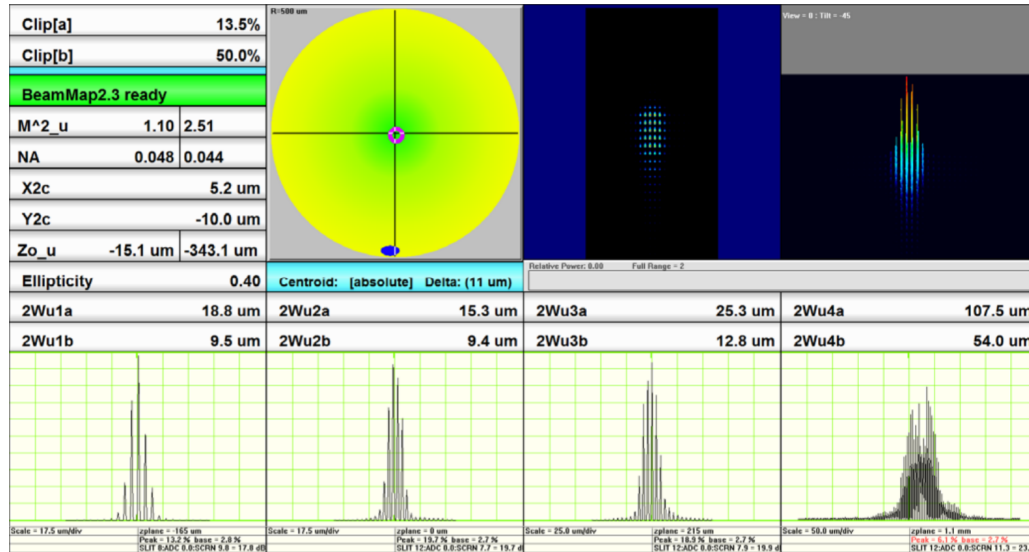

Figure 2: The profile gains should be lowered so that the troughs of the profile data all touch zero
8. Click **X** in the toolbar to show only the u profiles. Adjust all four individual profile gains to 8-12 dB lower than their current values, until the troughs of the profile data are no longer above zero (see Fig. 2).